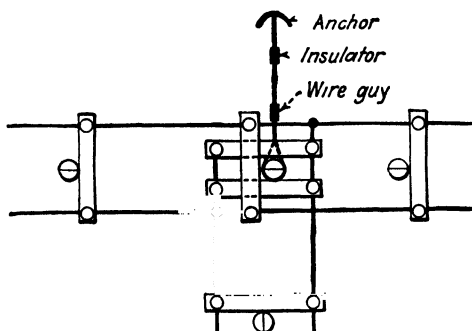

FIG. 12-8 Guy installed at branch-line connection. It opposes side pull of branch line
**Branch Lines.** Where a branch line takes off from the main line, an unbalanced side pull is produced. A side guy should be placed on the pole directly opposite to the pull of the branch line (Fig. 12-8).